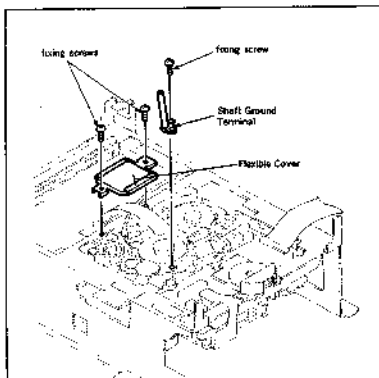
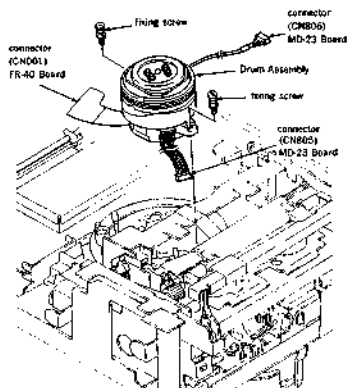

Fig. 1
Fig. 2
- (1) Open the MB-19 Board referring to Section 2-8.
- (2) Remove the Cassette-up Compartment Assembly referring to Section 2-13.
- (3) Remove the Fly Wheel referring to Section 7-2-1.
- (4) Open the HR-4 and SE-10 Boards referring to Sections 2-9 and 2-10.
- (5) Remove the two fixing screws and remove the Flexible Cover. (fig. 1)
- (6) Disconnect the connectors (CN805, 806) on the MD-23 Board and disconnect the connector (CN001) on the FR-40 Board.
- (7) Remove the fixing screw and remove the Shaft Ground Terminal.
- (8) Remove the two fixing screws and remove the Drum Assembly. (fig. 2)